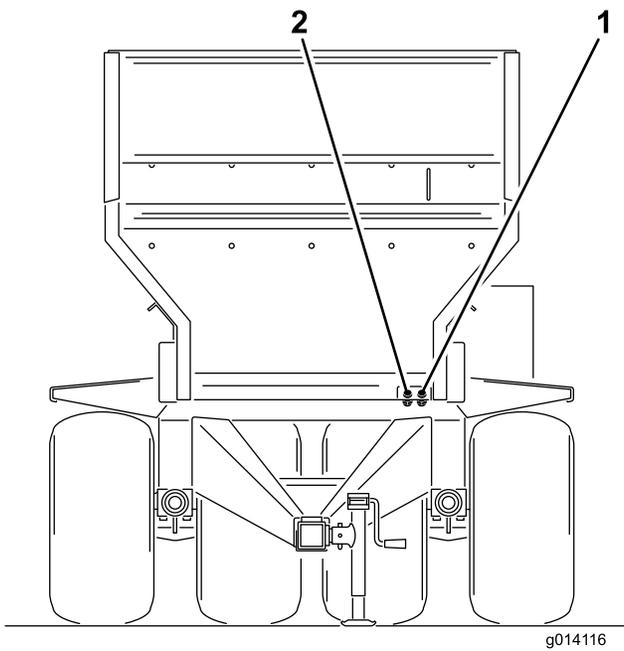

Figure 17
6. Connect the two hydraulic hoses from the machine to the tow vehicle. Facing the front of the machine, connect the right hose to the pressure side and the left hose to the return side (Figure 17). The return hose has an in line one way check valve. The arrow on the check valve should face the tow vehicle return connector.